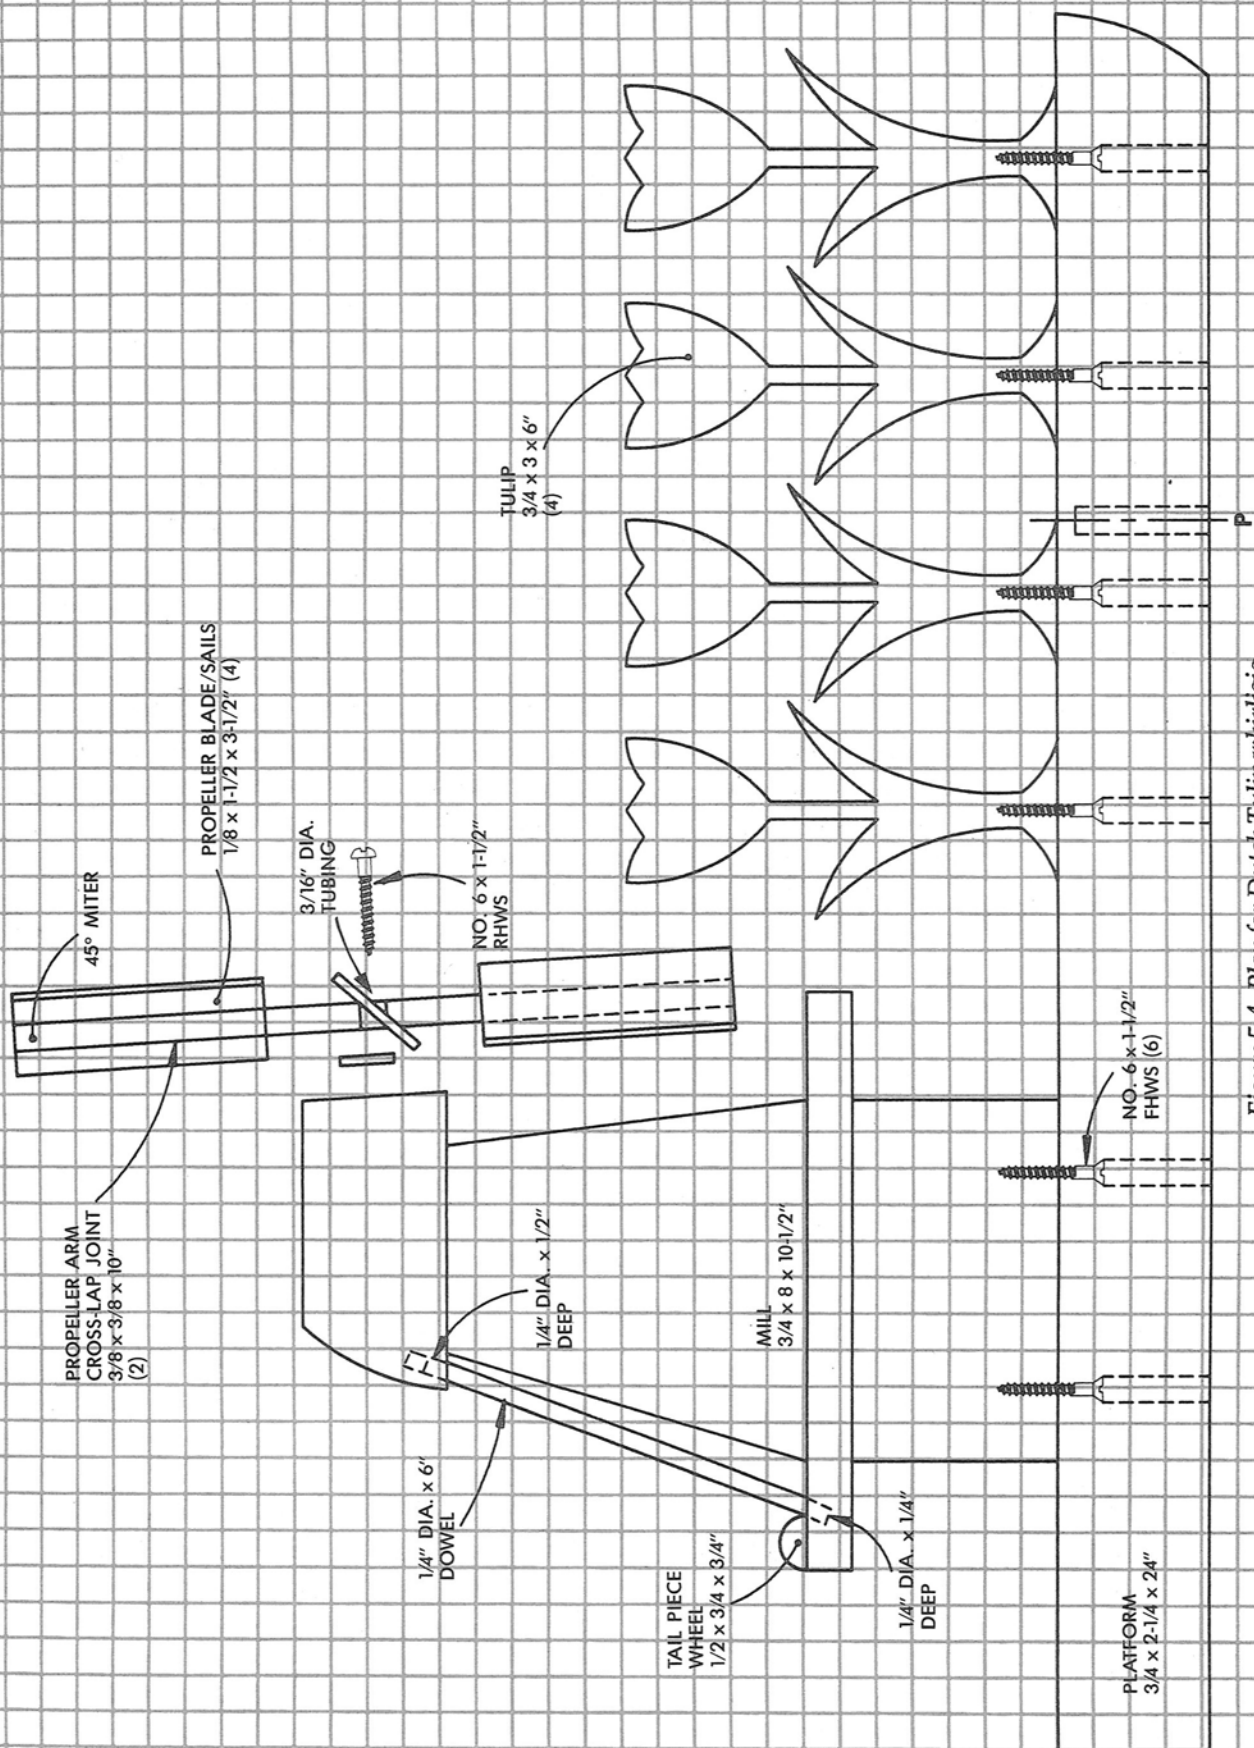

Figure 5-4. Plan for Dutch Tulip whirligig.
1. Cut out the platform and mark the positions and center points of the windmill and tulips (Fig. 5-4). Drill screw holes for the 4 tulips at 2, 5, 8, and 11 in. from the front, and two for the windmill at 16 and 19 in. from the front of the platform. Drill a 3/8 in. hole for the pivot socket at 7 in. and insert the tension pin and cap.
3. To construct the windmill propeller, cut out the arms/stocks and blades/sails (Fig. 5-4). Make a cross joint in the middle of the propeller arms. Drill a 3/16 in. hole in the center of the joint. Mark the ends where the sails will be attached and cut off 1/2 of those sections at a 45-degree angle. Glue/brad the sails to the arms and glue the arms together. Insert 3/16 in. brass tubing in the center hub. Mount the propeller with a No. 6 x 1-1/4 in. round head wood screw and washers.